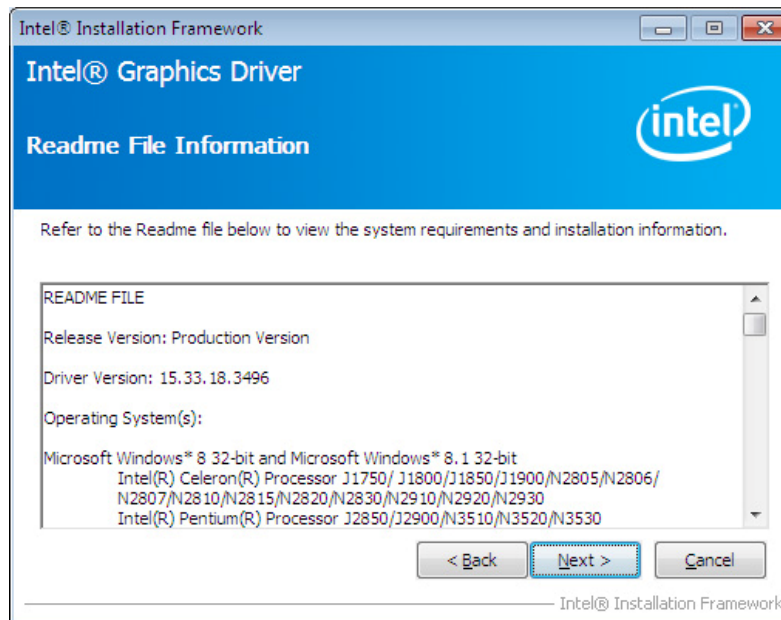

Figure 6-10: Graphics Driver Read Me File
Step 9: The **Read Me** file in **Figure 6-10** appears. Click **Next** to continue.